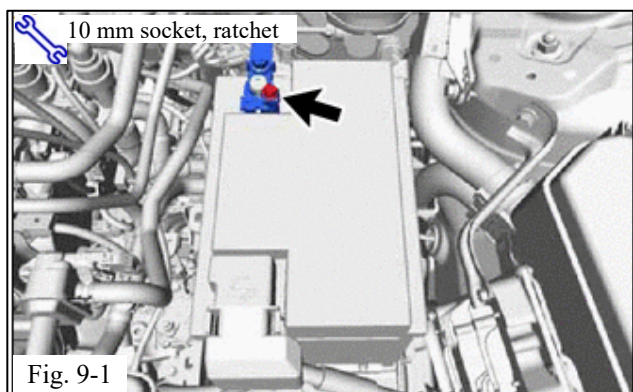

Fig. 9-1
- (a) Reconnect the vehicle's negative battery cable (Fig. 9-1).